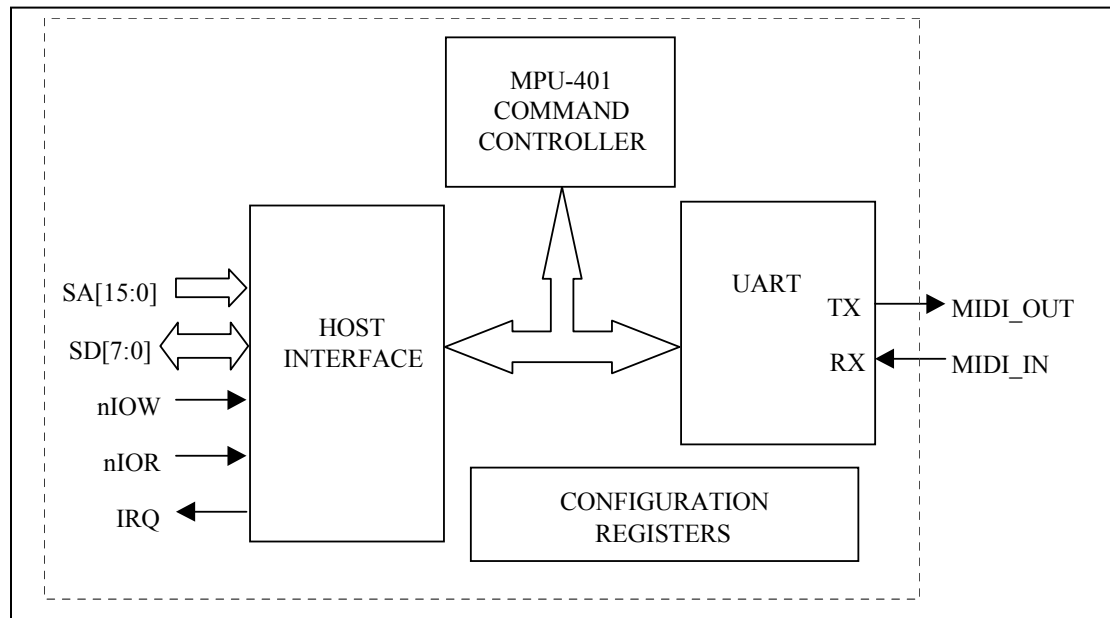

FIGURE 2 - MPU-401 MIDI INTERFACE
Serial Port 3 is used exclusively in the LPC47M112 as an MPU-401-compatible MIDI Interface. The LPC47M112 MPU-401 hardware includes a Host Interface, an MPU-401 command controller, configuration registers, and a compatible UART (Figure 2).
The Host Interface includes two contiguous 8-bit run-time registers (the Status/Command Port and the Data Port), and an interrupt. For illustration purposes, the Host Interface block shown in Figure 2 uses standard ISA signaling. Address decoding and interrupt selection for the Host Interface are determined by device configuration registers (see Section “MPU-401 Configuration Registers”).
**Note3** IRQ is the MPU-401 Host Interface IRQ shown in Figure 2. The UART Receive FIFO Threshold = 1.